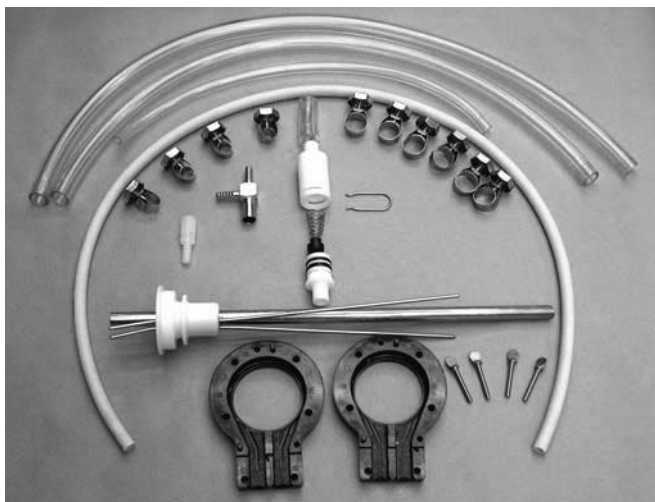

Figure 3-6 Mix Pump Removable Parts
- A. **Mix Operation:** The peristaltic mix pump contains one continuous mix pump hose. When looking at the face of the peristaltic mix pump, the left side of the hose is the mix intake or pickup. The right side of the hose is the mix discharge. Mix is drawn up the pickup side of the hose and transferred through the discharge side to the machine (Fig. 3-6).